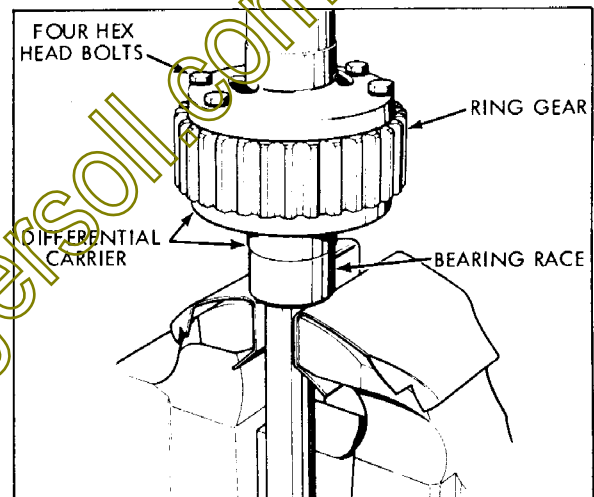

Figure 4-3
c. Place the differential in a large vise with soft jaws (hex head bolts up). Do not clamp the vise on the bearing race of a differential carrier. (Figure 4-3)